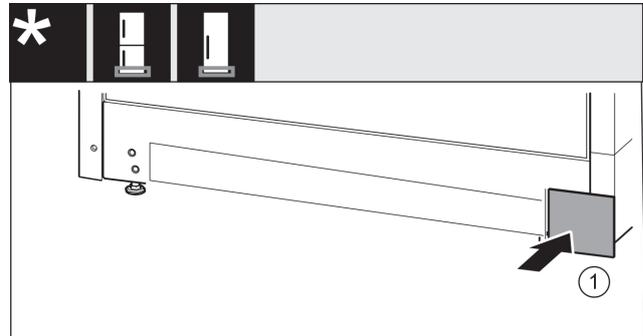

Fig. 44
- ▶ Re-attach the cover Fig. 44 (1) to the other side.